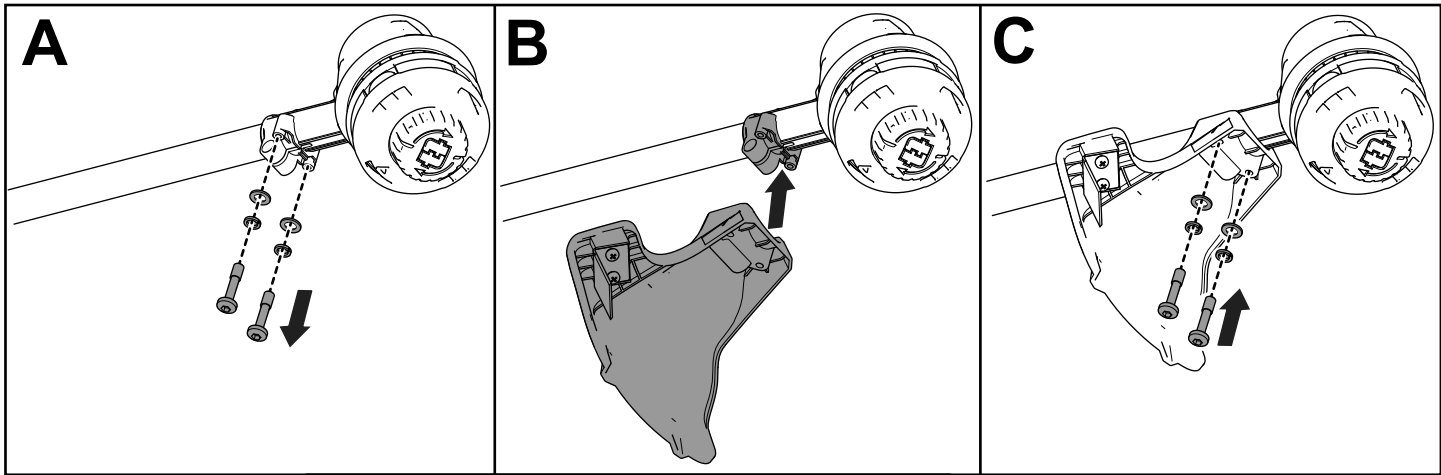

Figure 4
1. Remove the 2 socket head screws, 2 washers, and 2 spacers from the trimmer base (A of Figure 4).
2. Align the guard onto the trimmer base (B of Figure 4).